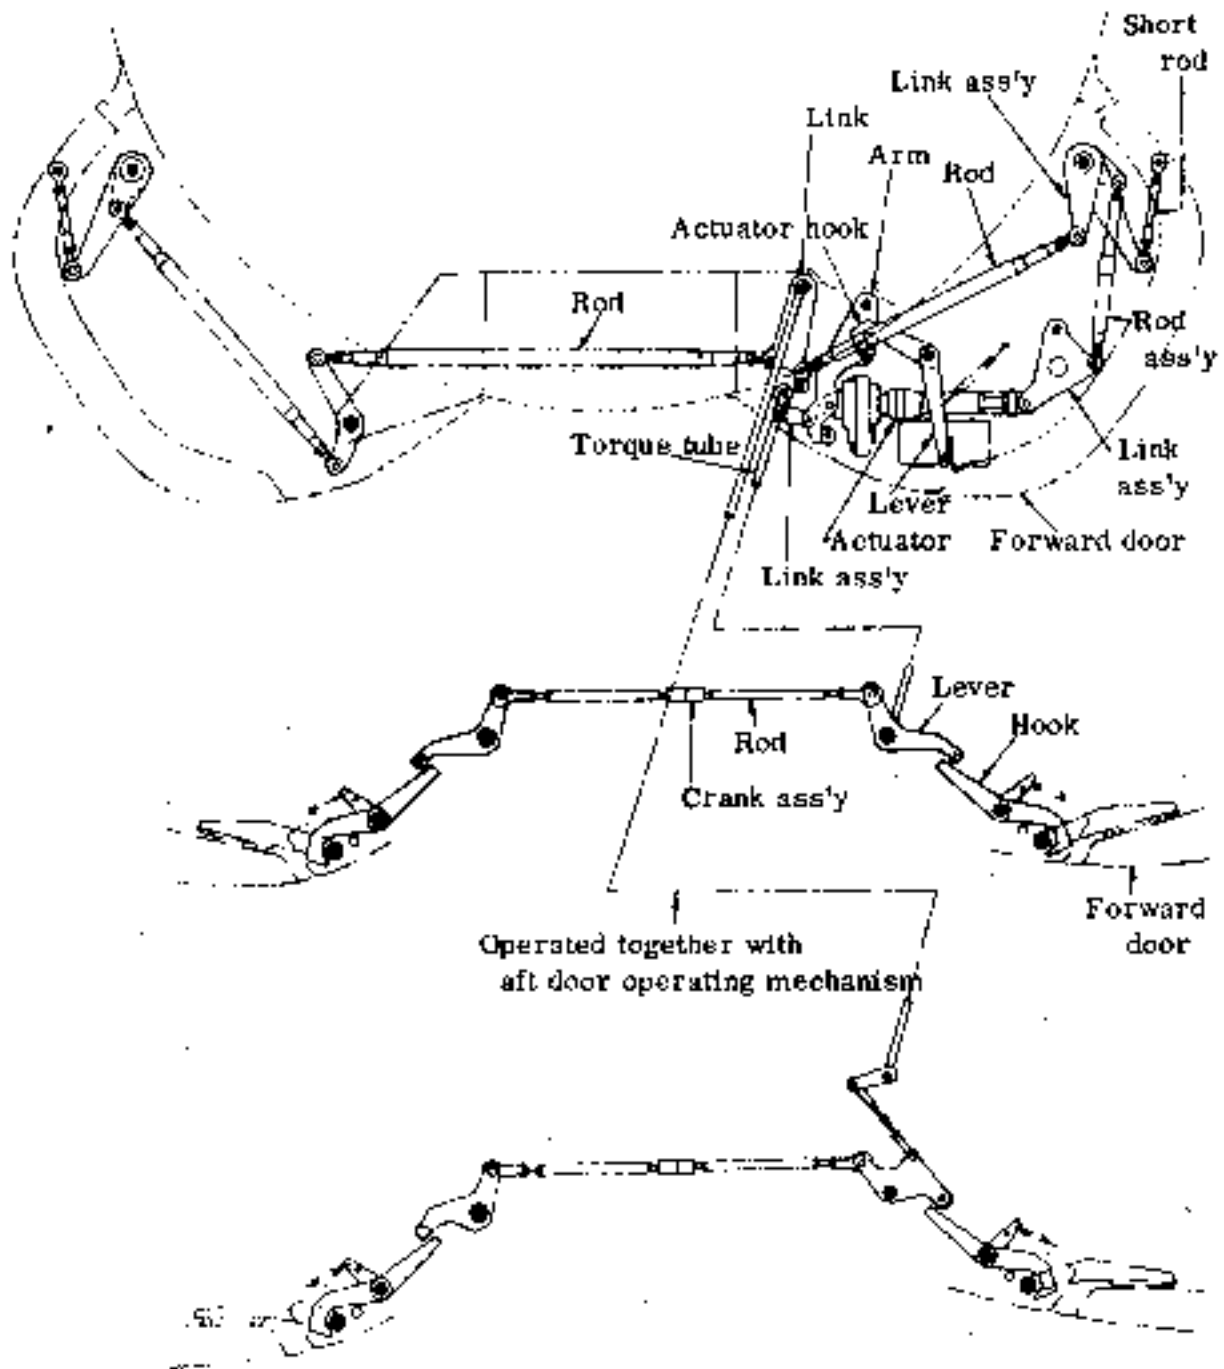

Fig. 4-29 Main landing gear forward door closed and locked condition
(1) Door closed and locked condition (See Fig 4-29).